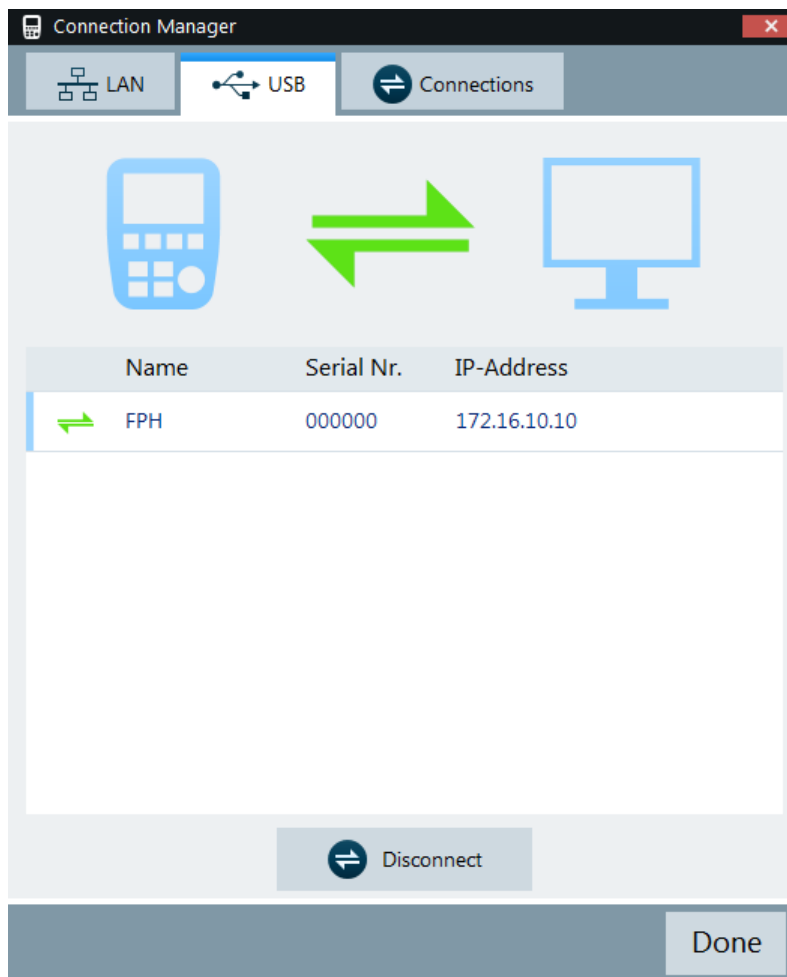

Figure 6-11: USB connection
3. There is only one USB instance in the connection manager list. See Figure 6-11.